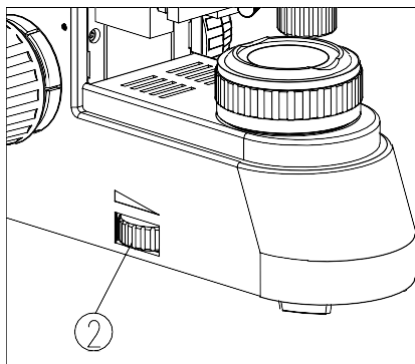

Fig. 9
2. Adjust the light adjustment knob ② until the illumination is comfortable for observation. Rotate the light adjustment knob in 360 ° clockwise to raise the voltage and brightness, and gradually enlarge the LCD display illumination brightness to 99%. Rotate the light adjustment knob in 360 ° counterclockwise to lower the voltage and brightness, and gradually decrease the LCD display illumination brightness to 10% (see Fig. 9).